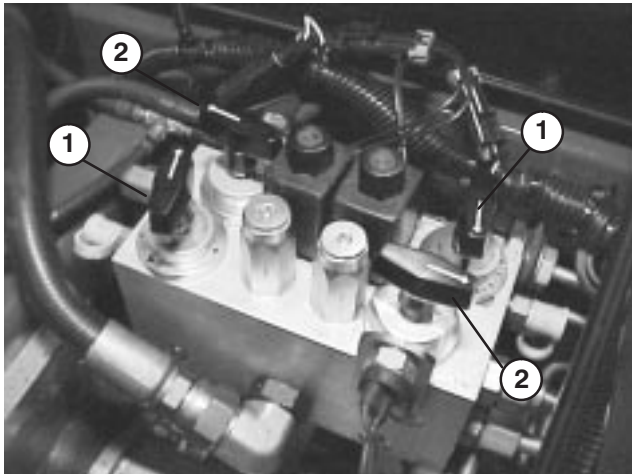

Figure 69
3. Locate the reel speed selector knobs and backlap knobs (Fig. 69). Rotate the desired backlap knob(s) to the backlap position and the desired reel speed selector knob(s) to position "1."